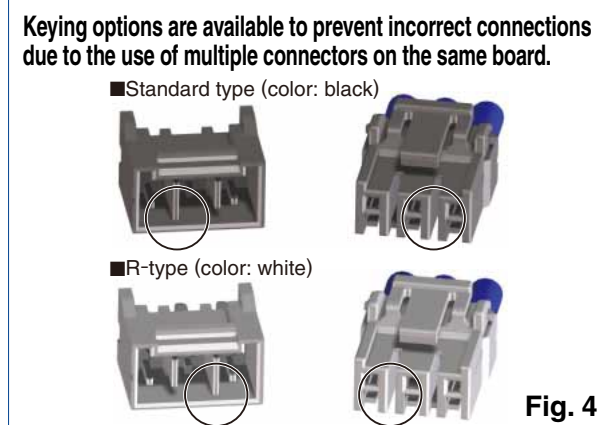

Fig. 4
A mechanism has been added to prevent reverse mating and incorrect mating between different number of positions. (Fig. 4)
* Keying options were provided to prevent incorrect connections. Keying options prevent incorrect connections due to the use of multiple connectors on the same board. When using identical pin counts, two versions are available with different keying options. (Fig. 4)